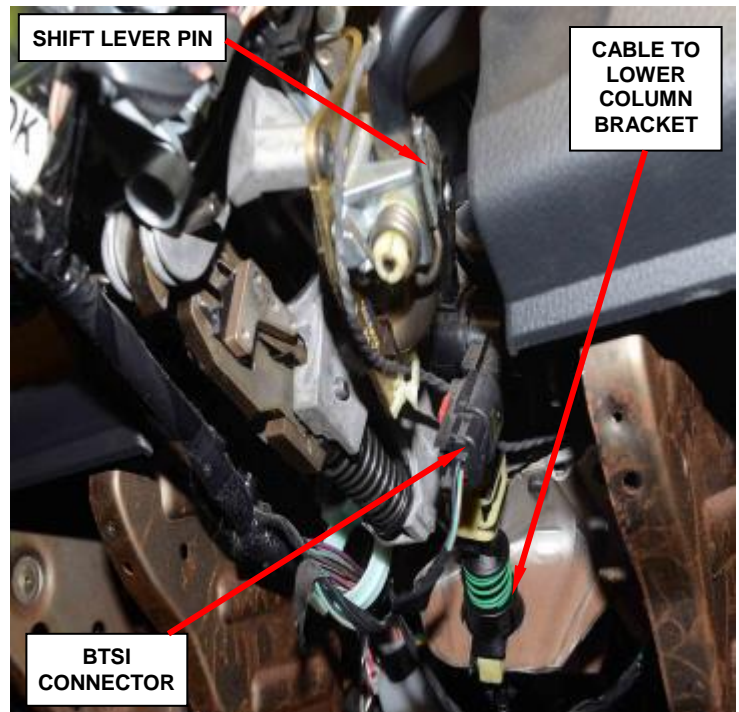

Figure 74 – Gear Shift Cable
13. Disconnect the gearshift cable from the column (Figure 74).